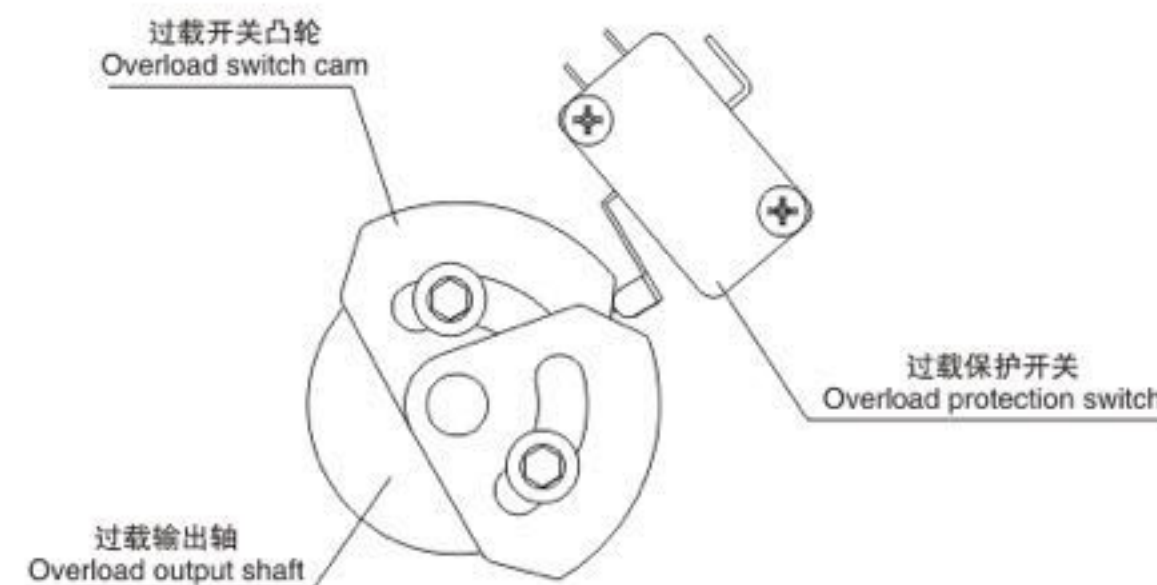

图13 Figure 13
7.4 过载保护装置调整 (图13) Adjustment of overload protector (Fig. 13)